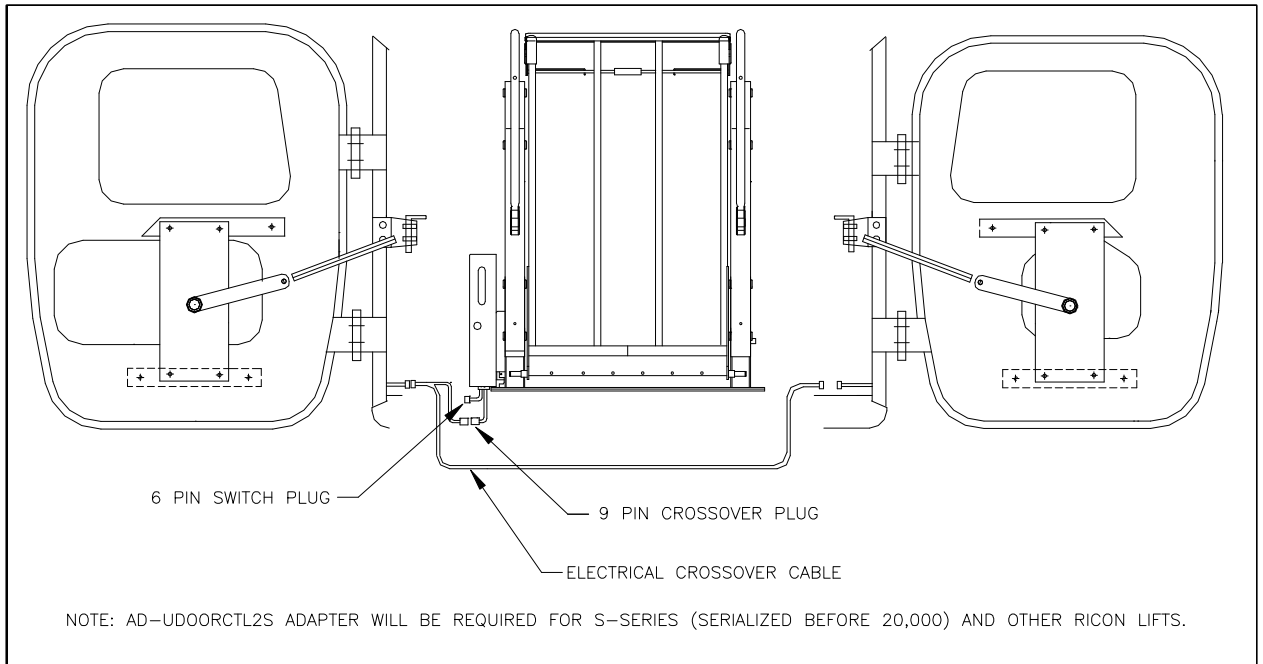

FIGURE 2-5: POWER DOOR OPERATOR AND LIFT INTERCONNECT DIAGRAM
5. Refer to **Figure 2-5**. Plug the interconnecting electrical crossover cable between the power door operators and the lift. Be certain to connect the end of the crossover cable with two cables (the short cable terminates at the lift connector) to the left door operator, and the opposite end to the right door operator. If not connected properly, the door sequencing will be reversed.